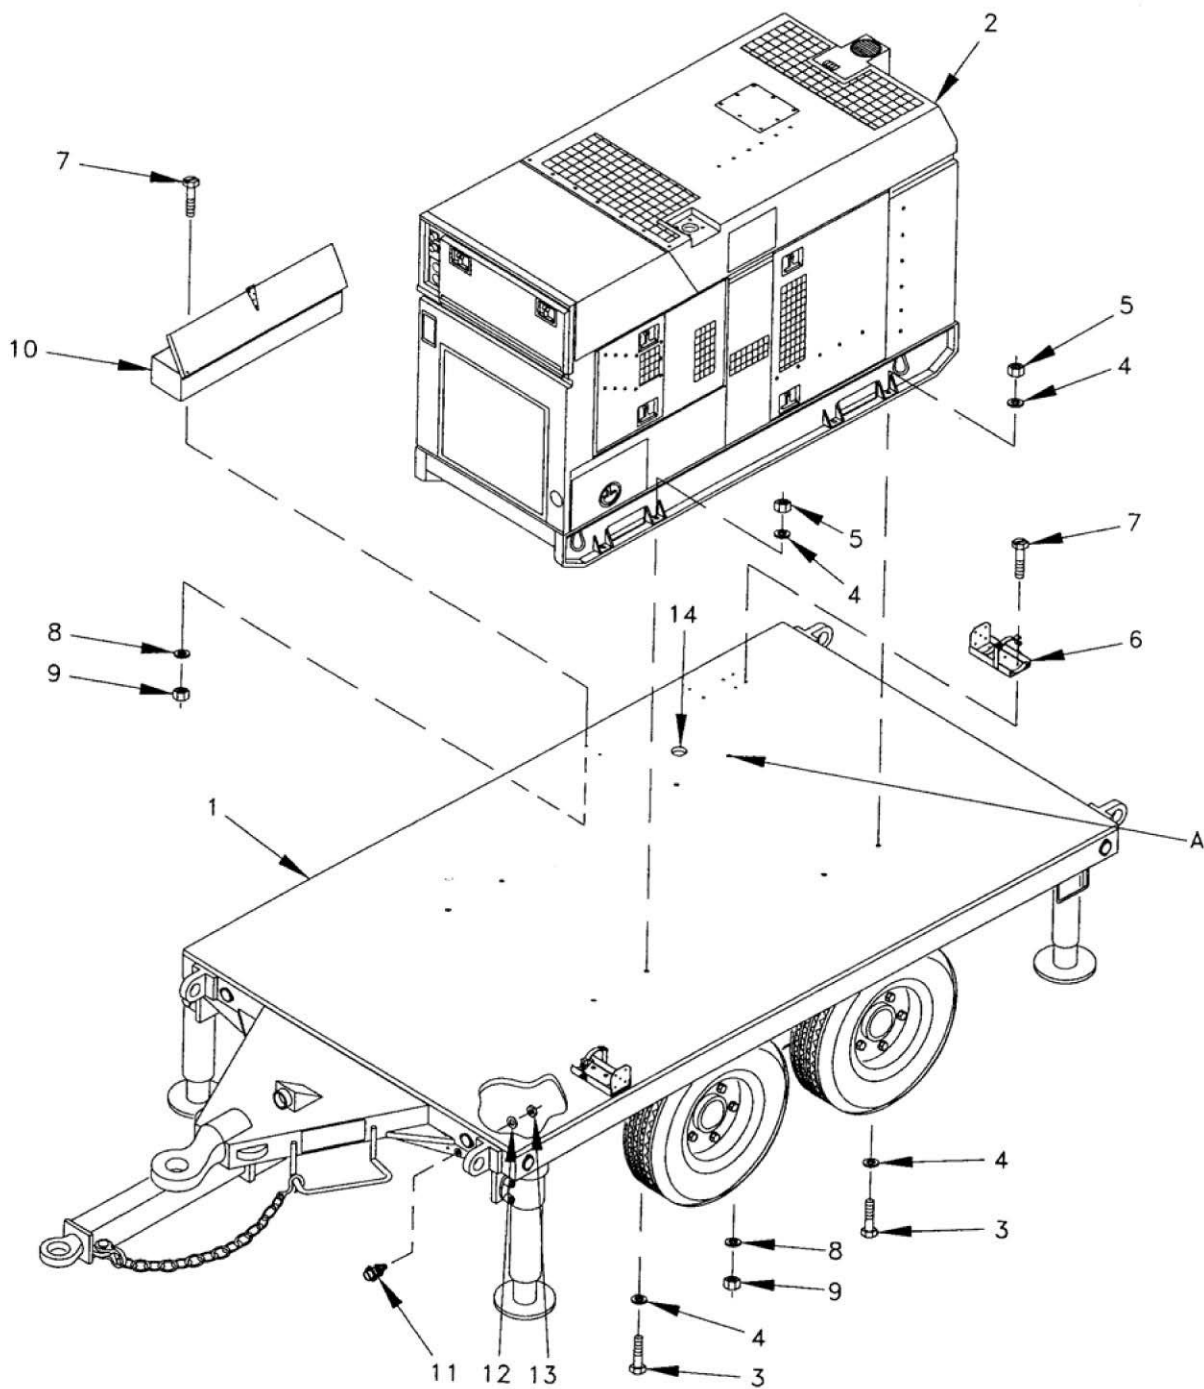

Figure 1. Installation of Generator Set On Trailer.
1. Park M1061/M1061A1 trailer (Figure 1, Item 1) on level hard surface. Lower support legs (TM 9-2330-376-14&P). Level trailer and chock wheels.
2. Using lifting device with sufficient capacity (at least 7,000 lb (3,175 kg), maneuver TQG (Figure 1, Item 2), with control panel end toward tongue of trailer.
3. Slowly lower TQG (Figure 1, Item 2) into position onto trailer (Figure 1, Item 1).
6. Install eight screws (Figure 1, Item 3), 16 washers (Figure 1, Item 4), and eight nuts (Figure 1, Item 5) on trailer (Figure 1, Item 1). Torque to 125 lb•ft (69 N•m).
7. Install two fire extinguisher brackets (Figure 1, Item 6), eight screws (Figure 1, Item 7), washers (Figure 1, Item 8), and locknuts (Figure 1, Item 9).
8. Install accessory box (Figure 1, Item 10), four screws (Figure 1, Item 7), washers (Figure 1, Item 8), and locknuts (Figure 1, Item 9).
9. Install load terminal (Figure 1, Item 11), washer (Figure 1, Item 12), and locknut (Figure 1, Item 13).
10. Install grommet (Figure 1, Item 14) in deck.